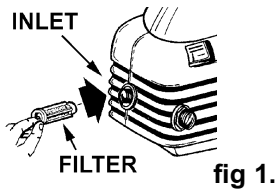

fig 1.
- 3.1.2. Check the inlet filter is clean; pump delivery and pressure will be reduced if blocked. Never use the machine without a filter (fig 1).